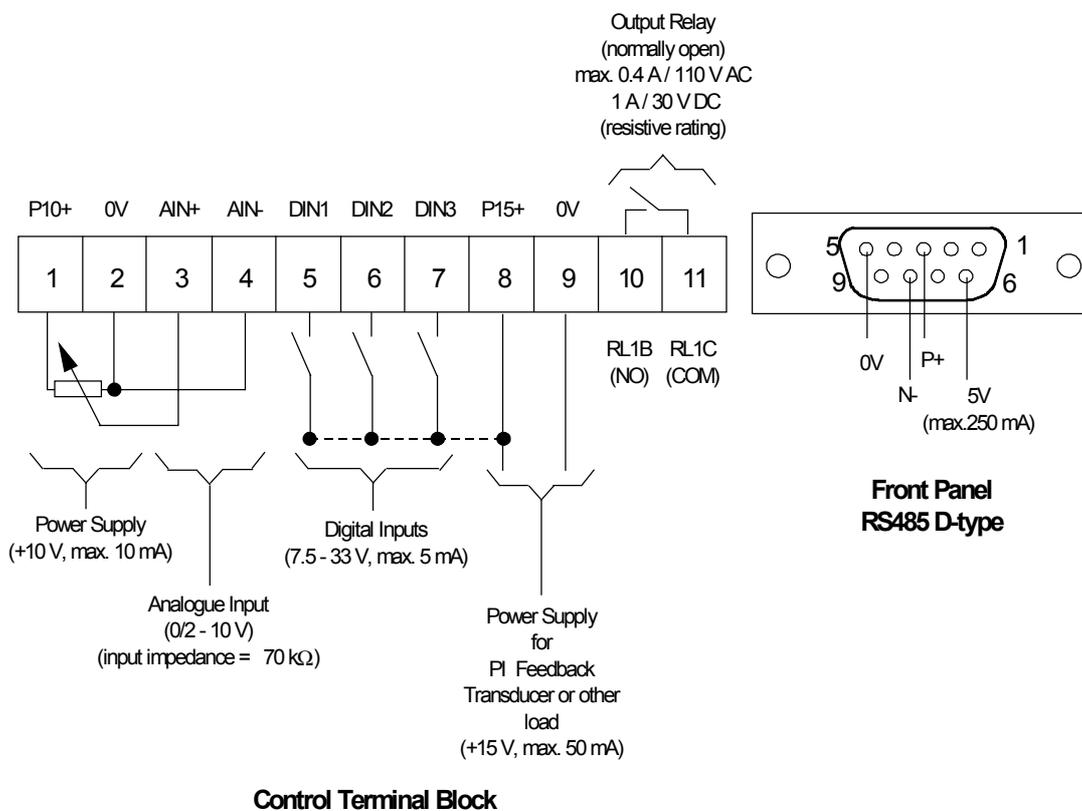
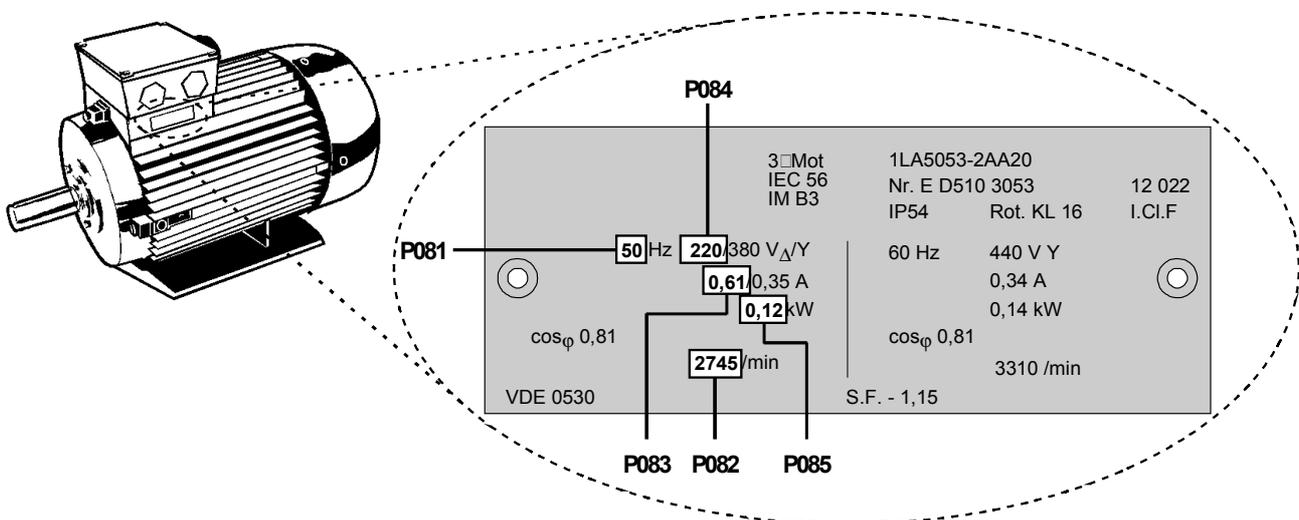

Figure 2.2.4: Control Connections
Figure 3.2.1: Typical Motor Rating Plate Example
15. Connect the control leads as shown in *Figures 2.2.4 and 2.2.6*, *Section 2.2.4 and 2.2.6*.
- (1) The inverter does not have a main power switch and is live when the mains supply is connected. It waits, with the output disabled, until the RUN button is pressed or for the presence of a digital ON signal at terminal 5 (rotate right) or terminal 6 (rotate left) - see *parameters P051 - P053*.
- (2) If output frequency is selected to be displayed (P001 = 0), the corresponding setpoint is displayed approximately every 1.5 seconds while the inverter is stopped.
- (3) The inverter is programmed at the factory for standard applications on Siemens four-pole standard motors. When using other motors it is necessary to enter the specifications from the motor's rating plate into parameters P081 to P085 (see *Figure 3.2.1*). **Note: Access to these parameters is not possible unless P009 has been set to 002 or 003.**
- (1) Connect control terminal 5 to terminal 8 via a simple on/off switch. This sets up the motor for clockwise rotation (default).
- (2) Apply mains power to the inverter. Set parameter P009 to 002 or 003 to enable all parameters to be adjusted.
- (3) Check that parameter P006 is set to 000 to specify digital setpoint.
- (4) Set parameter P007 to 000 to specify digital input (i.e. DIN1 (terminal 5) in this case) and disable the front panel controls.
- (5) Set parameter P005 to the desired frequency setpoint.
- (6) Set parameters P081 to P085 in accordance with the rating plate on the motor (*see Figure 3.2.1*).
- (2) Connect a 4.7 k Ω potentiometer to the control terminals as shown in Figure 2.2.4 or connect pin 2 (0V) to pin 4 and a 0 - 10 V signal between pin 2 (0V) and pin 3 (AIN+).
- (3) Apply mains power to the inverter. Set parameter P009 to 002 or 003 to enable all parameters to be adjusted.
- (4) Set parameter P006 to 001 to specify analogue setpoint.
- (5) Set parameter P007 to 000 to specify digital input (i.e. DIN1 (terminal 5) in this case) and disable the front panel controls.
- (6) Set parameters P021 and P022 to specify the minimum and maximum output frequency settings.
- (7) Set parameters P081 to P085 in accordance with the rating plate on the motor (*see Figure 3.2.1*).